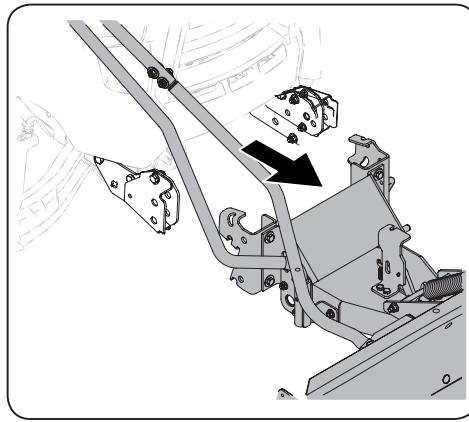

Figure 2-25
6. Slide plow assembly out of mounting brackets. See Figure 2-25.